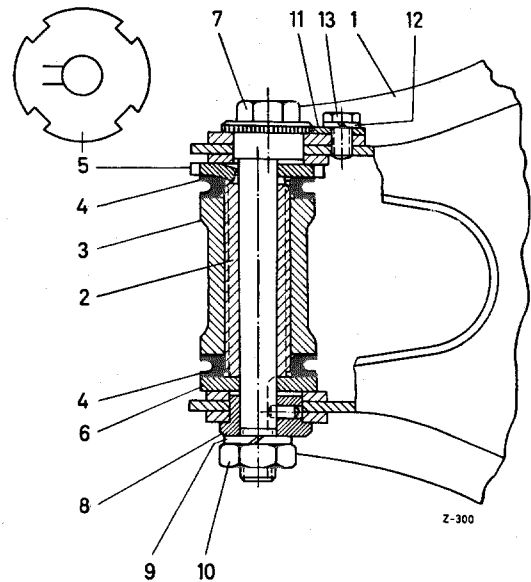

Fig. 33 — 4/2
5. Remove the hexagon nut (10) of the eccentric bolt (7) at the upper control arm. Take off the lock washer (9) and the eccentric bushing (8). Then pull out the eccentric bolt
(7) and take off the adjusting washer (5) for the caster adjustment and the washer (6). Take the two rubber sealing rings (4) off the threaded bushing (2) in the upper steering knuckle assembly and unscrew the threaded bushing (Fig. 33 — 4/2).